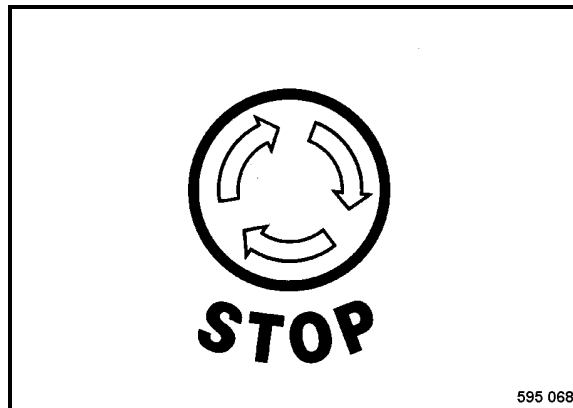

Fig. 88
- Press the button of the emergency stop switch (Fig. 88) completely down, it automatically locks in fully pressed position.